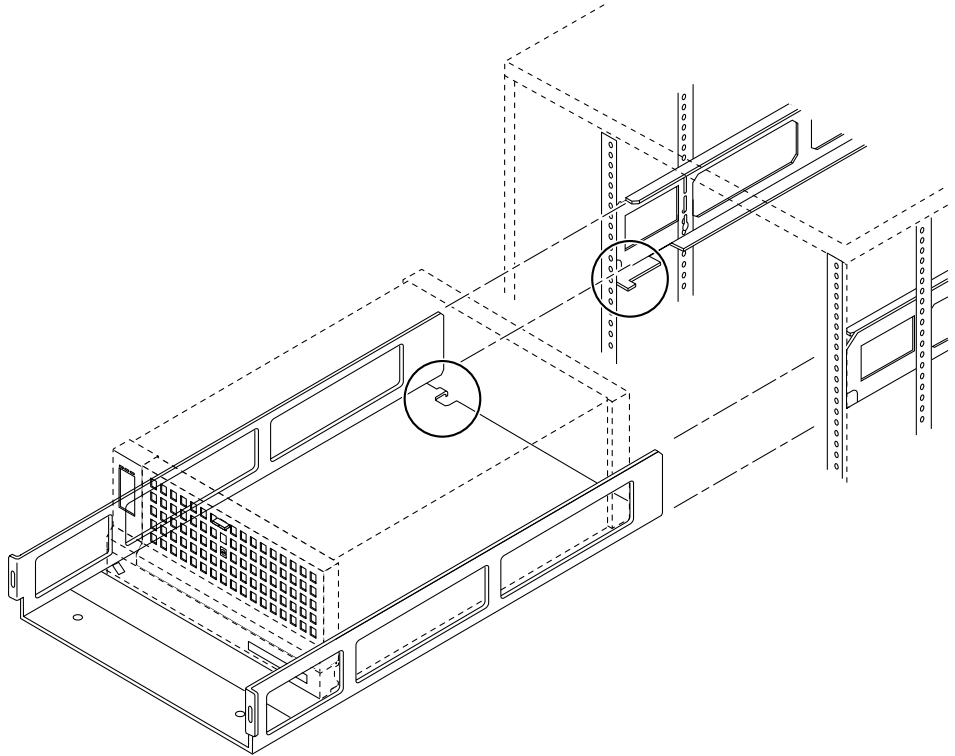

FIGURE 7-23 Removing the Chassis and Baseplate From the Cabinet
5. With the aid of an assistant, slide the disk array out of the cabinet until the chassis baseplate is stopped by the tabs on the side rails in the cabinet (FIGURE 7-23).